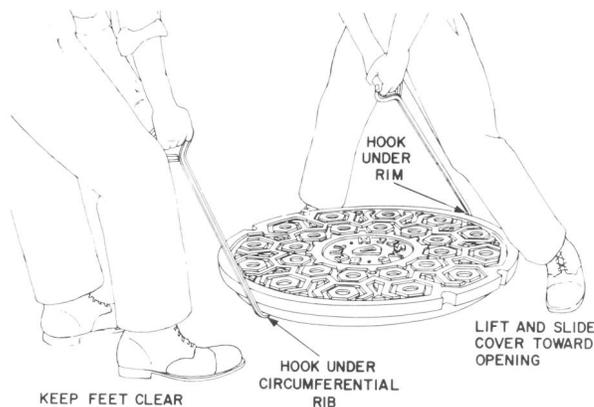

Fig. 21—Sliding Cover to Manhole Frame—Two-Man Method
4.03 If the cover has been left several feet or more from the manhole, it may be skidded to the opening by two workmen pulling with manhole hooks as shown in Fig. 21. One man engages the circumferential rib preferably at one of the hook holes nearest the manhole opening. The other man engages his hook with the rim on the opposite side, whereupon both men lift and pull the cover toward the opening.